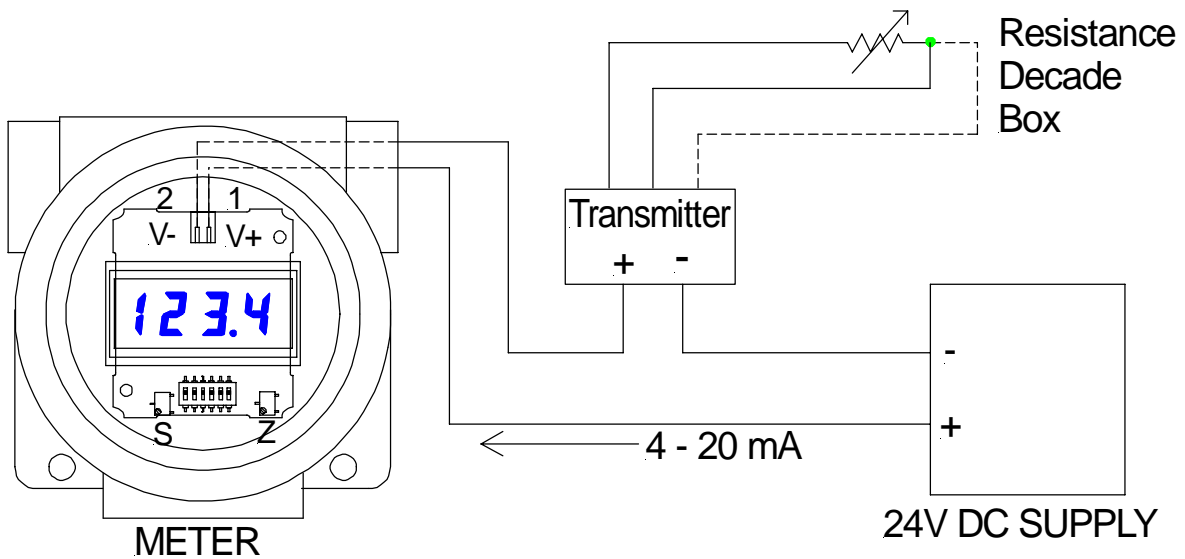

Figure 2
1. Hook-up the equipment as shown in the Figure 2. Remove thumbscrews that secure the meter bezel. Remove the two hex screws that hold the meter in the housing. Pull terminal block off from PC board, screw wires onto block, then re-plug block onto board.